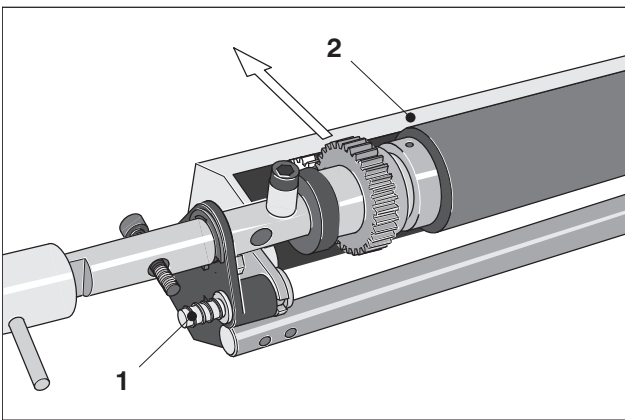

Fig. 28 Taking off the washing fluid trough
4. Press in the pins on O.S. (Fig. 28/1) and D.S.
5. Slide the washing fluid trough (Fig. 28/2) in the direction of the arrow.